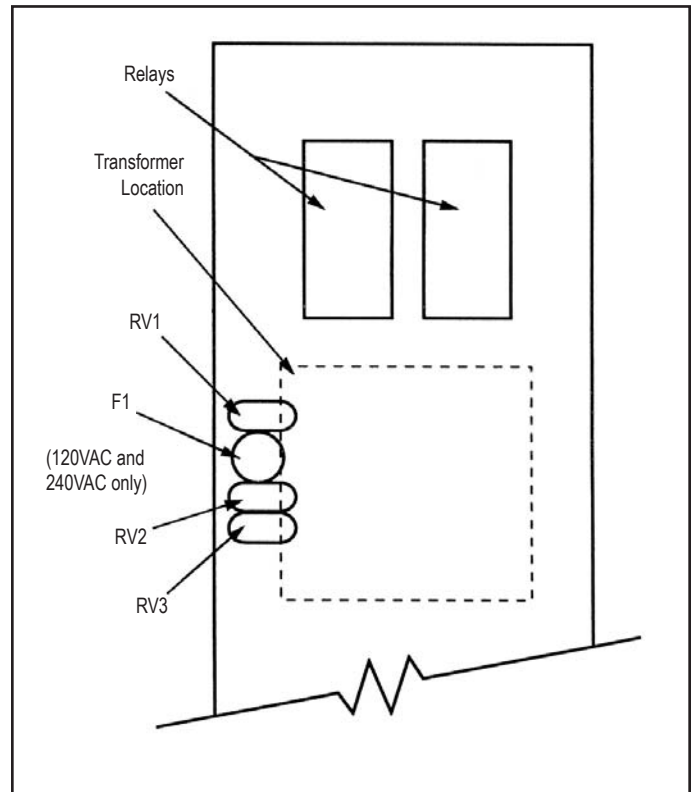

FIGURE 11
3. Unplug the varistor(s) (RV1, RV2, RV3) located on the opposite side of the circuit board from the wiring terminals. (See Figure 11.)
3. Unplug the fuse (F1) from the circuit board (See Figure 11.) The fuse is located on the opposite side of the circuit board from the wiring terminals.